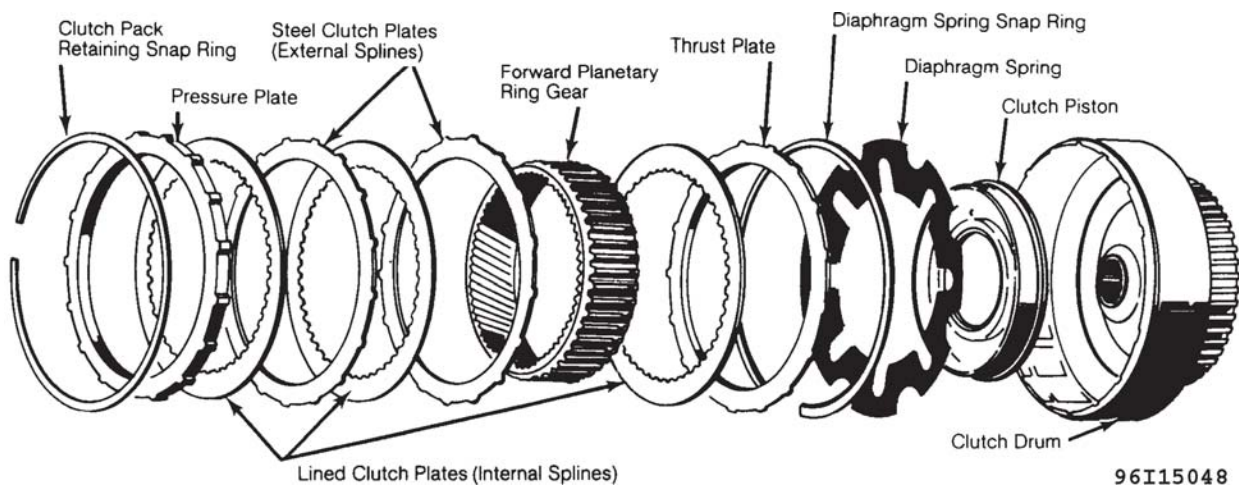

Fig. 19: Exploded View Of Forward Clutch Assembly
2. Remove flat circlip, diaphragm spring and clutch piston. See **Fig. 19**. Remove spring washer and spring. Use press to compress spring plate and remove small circlip.